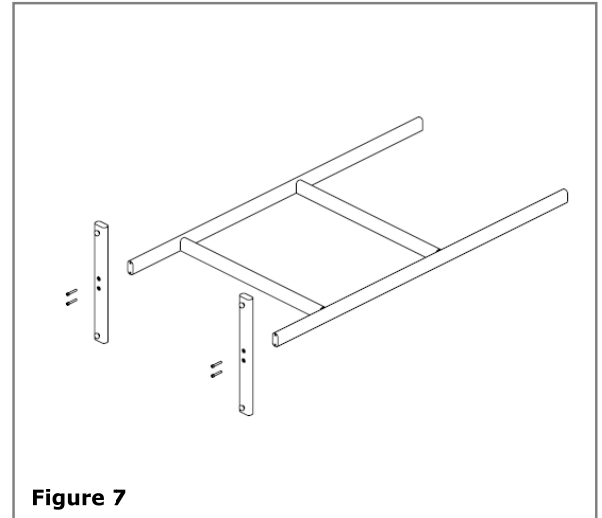

Figure 7
1. Attach the feet to the posts using the socket-head screws, two per foot. **See Figure 7.**